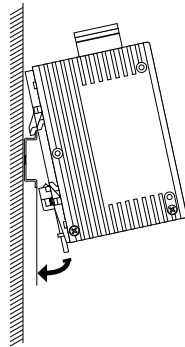
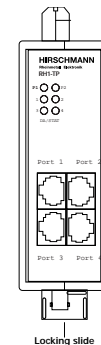

Fig. 7: Assembling the RH1-TP
Fig. 8: Dismantling the RH1-TP
- Suspend the upper snap-in hook of the RH1-TP in the ISO/DIN rail, insert a screwdriver horizontally under the housing into the locking slide pull this downwards (cf. Fig. 8, dismantling) and press the bottom of the module onto the ISO/DIN rail until it locks in position (Fig. 7).